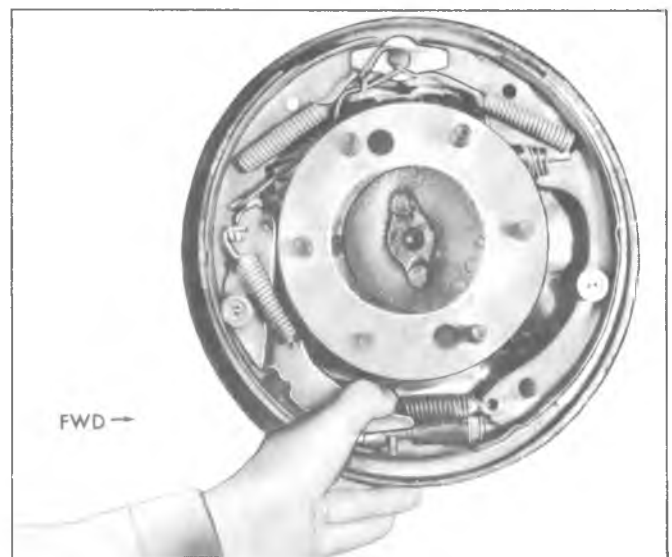

Fig. 25—Checking Actuating Lever
15. After completing installation, make certain the actuator lever functions easily by hand operating the self-adjusting feature (fig. 25).